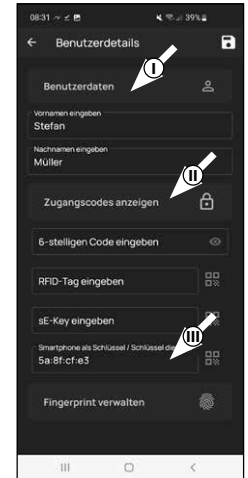

Fig. 3
This section allows the user to enter the desired opening media (II) (Fig. 3). The lock opening by smartphone is automatically stored in the first user's profile (III) (Fig. 3).